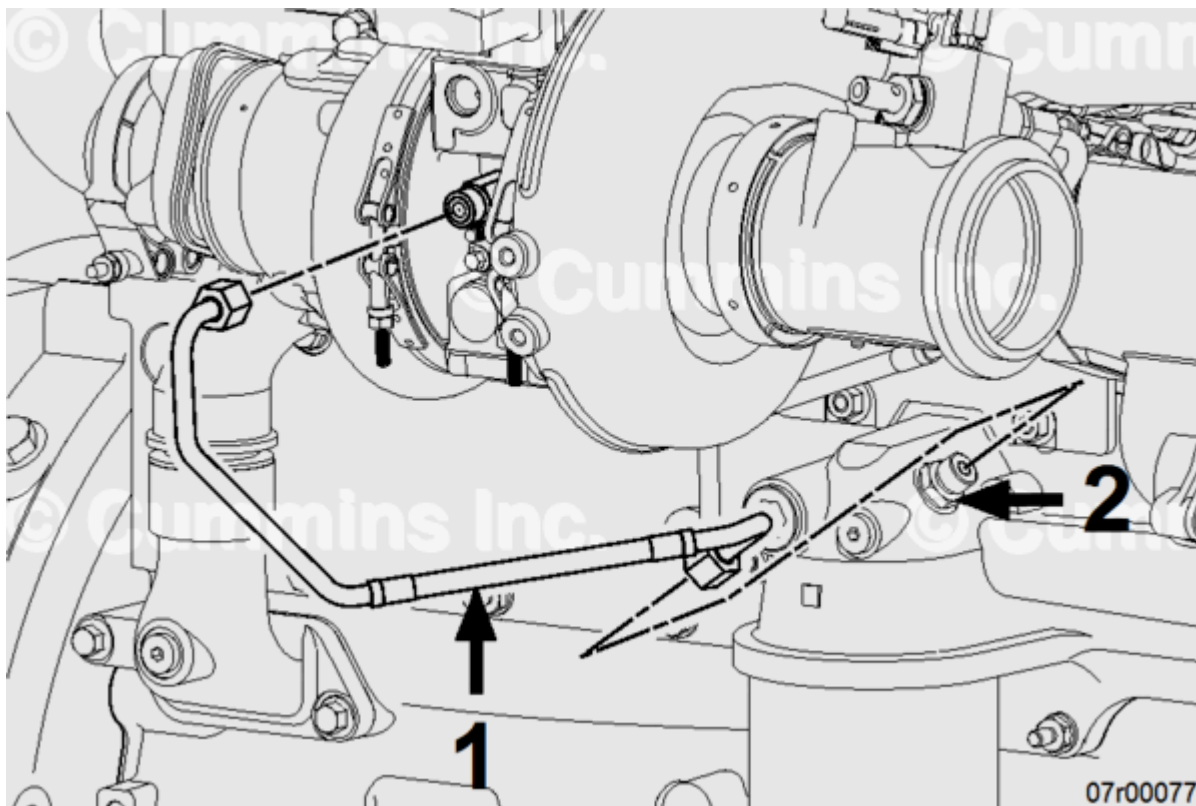

Figure 9, 1.) Turbocharger Oil Supply Line. 2.) Turbocharger Oil Supply Line Fitting.
- Remove turbocharger oil supply line from the oil supply line fitting (Figure 9, Item 1).
- Remove the turbocharger oil supply line fitting (Figure 9, Item 2).